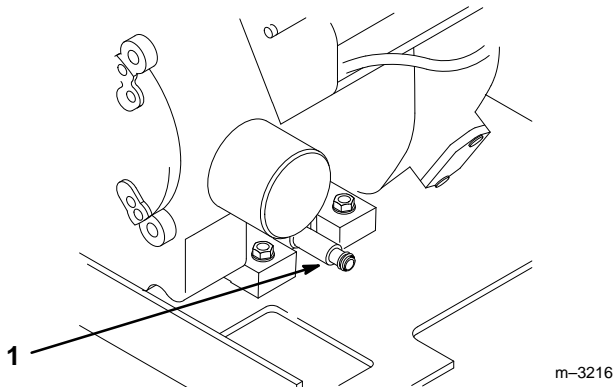

Figure 12
3. Place one end of a hose on the drain valve and the other end in a pan. Open the drain valve by turning it counter-clockwise, pulling out as you turn it (Fig. 12).